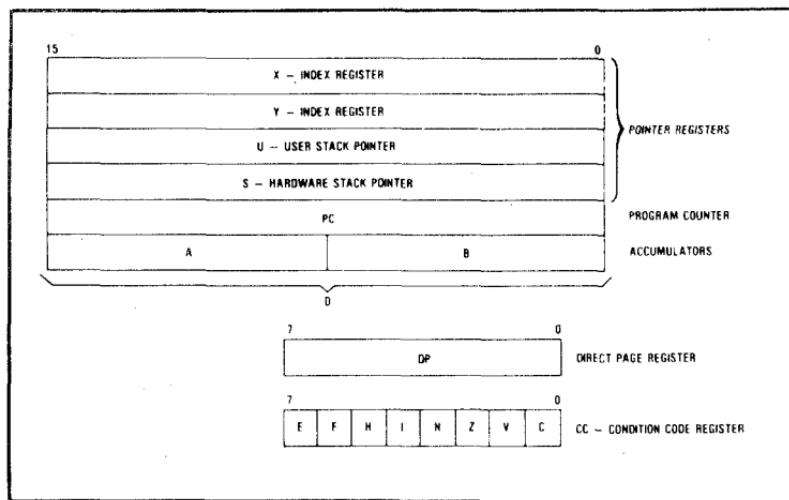
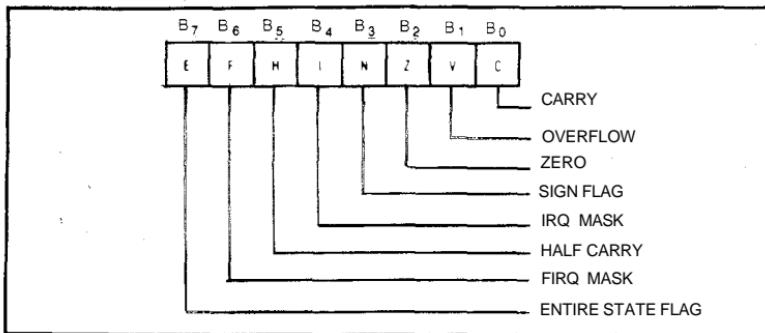

Fig. 2-1. Programming model of the microprocessing unit (courtesy of American Microsystems, Inc.).
Fig. 2-2. Condition code register format (courtesy American Microsystems, Inc.).
As you can see, the device is extremely flexible and offers the software designer a great deal of power in a microprocessor. Figure 2-1 is the basic programming model for the 6809 µP. You will notice that the X and Y index registers are 16-bits wide, and the U and S stack pointers are also 16-bits. The interesting register is made up of two 8-bit registers, A and B, which together make up D. It is within these three registers—*accumulators*—that most of the processor's work will be done. The direct page and condition code registers are 8-bits wide and provide programming enhancement that will be explained later.
Taking a look at Fig. 2-1, you can see that within the structure there are the X and Y 16-bit index registers. These are also referred to as the *pointer registers*.
Stack pointers U and S, shown in Fig. 2-1, can also be used as index registers, but they serve very specific purposes in processing. The *Hardware Stack Pointer* (S) is used by the processor during subroutine calls and interrupts. The difference between this stack pointer and that on the 6800 µP is that it points to the top of the stack rather than the next free location (Table 2-1).
The next registers, A, B and D accumulators, are made up of two 8-bit registers as shown by Fig. 2-1. The A and B registers are
The final register in the programming model of Fig. 2-1 is the condition code register (CC). Figure 2-2 is the format for this 8-bit